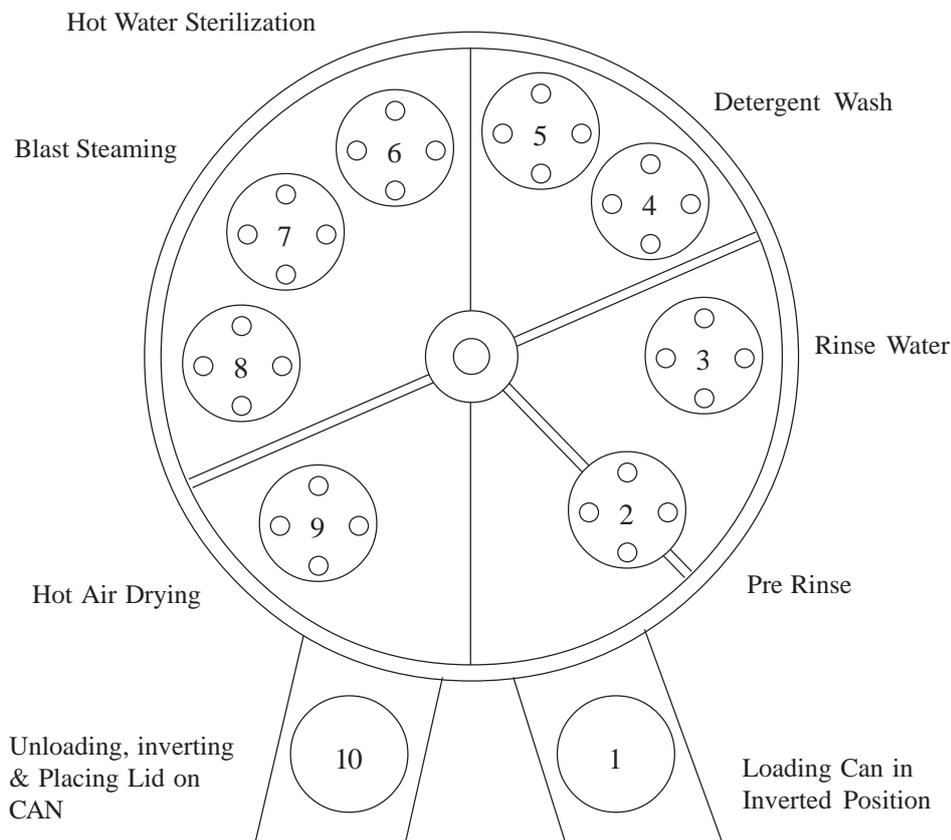

Fig. 14.4: Rotary Can Washer
**Design:** The cans are carried on a large rotating table or carrier (see Fig: 14.4); this type of washer is very simple in construction. Dished cans are also cleaned without any problem of falling. These are built in various sizes for handling low to medium number of cans and are very compact machines.